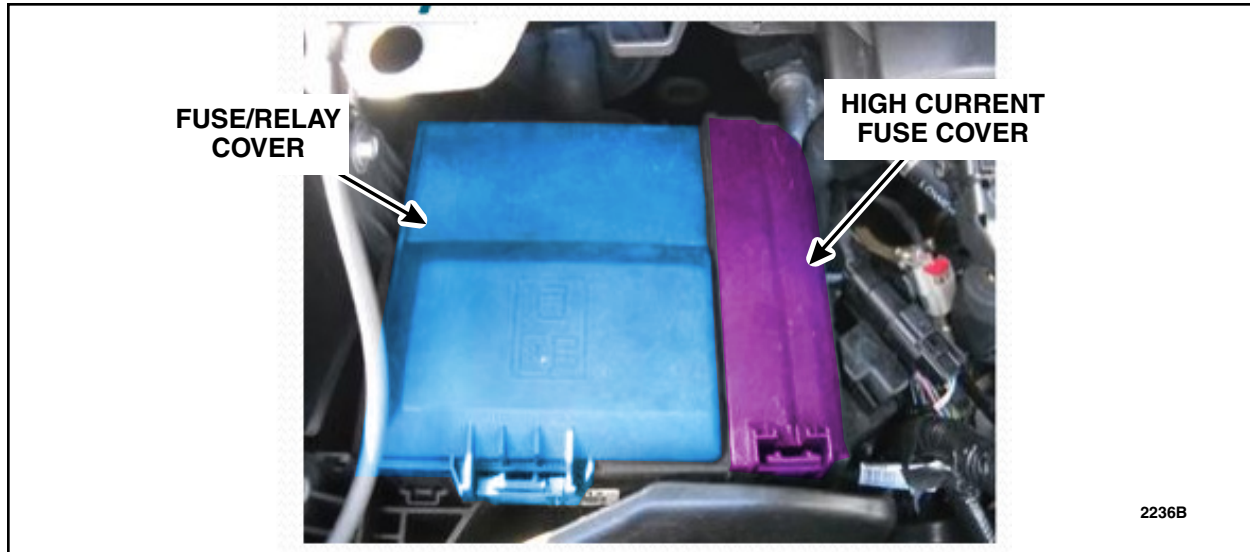

FIGURE 2
1. Are both the fuse/relay cover and the High Current fuse cover present. See Figure 2.